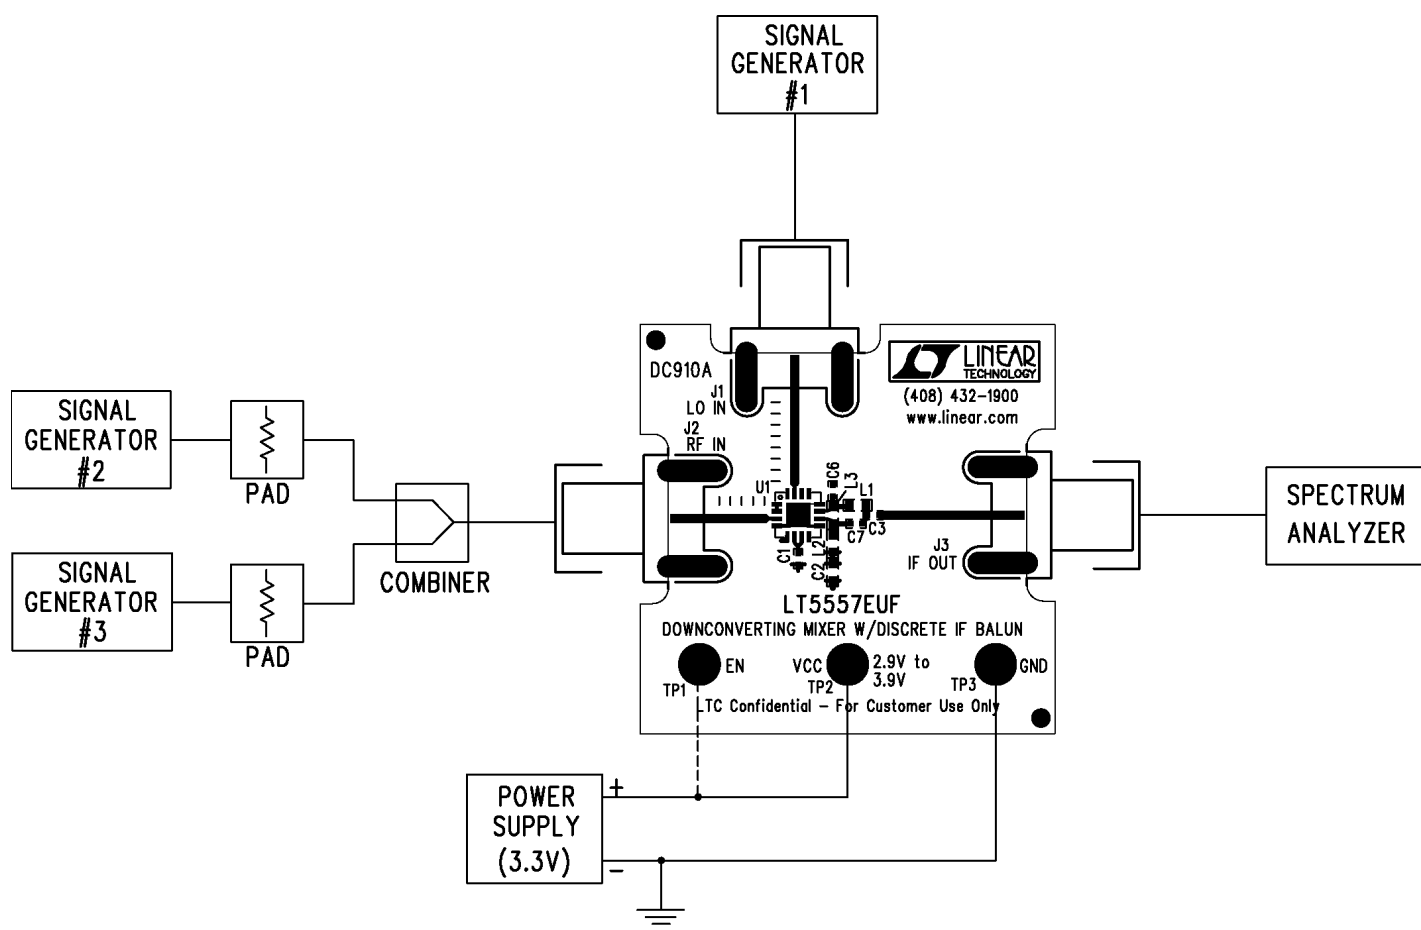

Figure 1. Proper Measurement Equipment Setup
Demonstration circuit 910A is easy to set up to evaluate the performance of the LT5557. Refer to Figure 1 for proper measurement equipment setup and follow the procedure below:
Refer to Figure 1 for proper measurement equipment setup.
1. Connect all test equipment as shown in Figure 1.